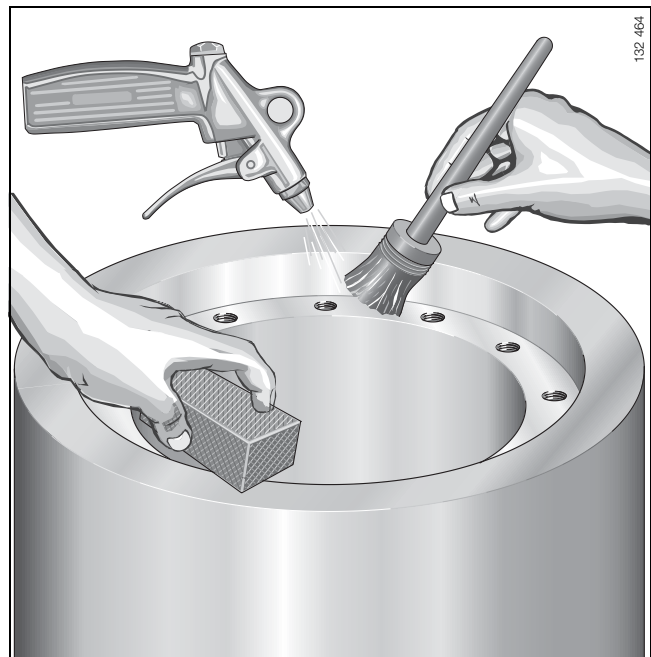

Figure 1 · Preparing the adjacent construction
■ any burrs present must be removed using an oilstone (Figure 1).
Cleaning (Figure 1):